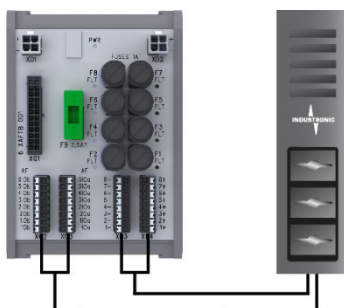

Fig. 6-7: XAFTB connected to audio component (e.g. analog intercom station)
2. Connect the incoming cables of the audio components to terminals **XG2** and **XG3** as well as **XD3** and **XD4** of terminal block **XAFTB** (→ Fig. 6-7 and chapter 0, page 49).